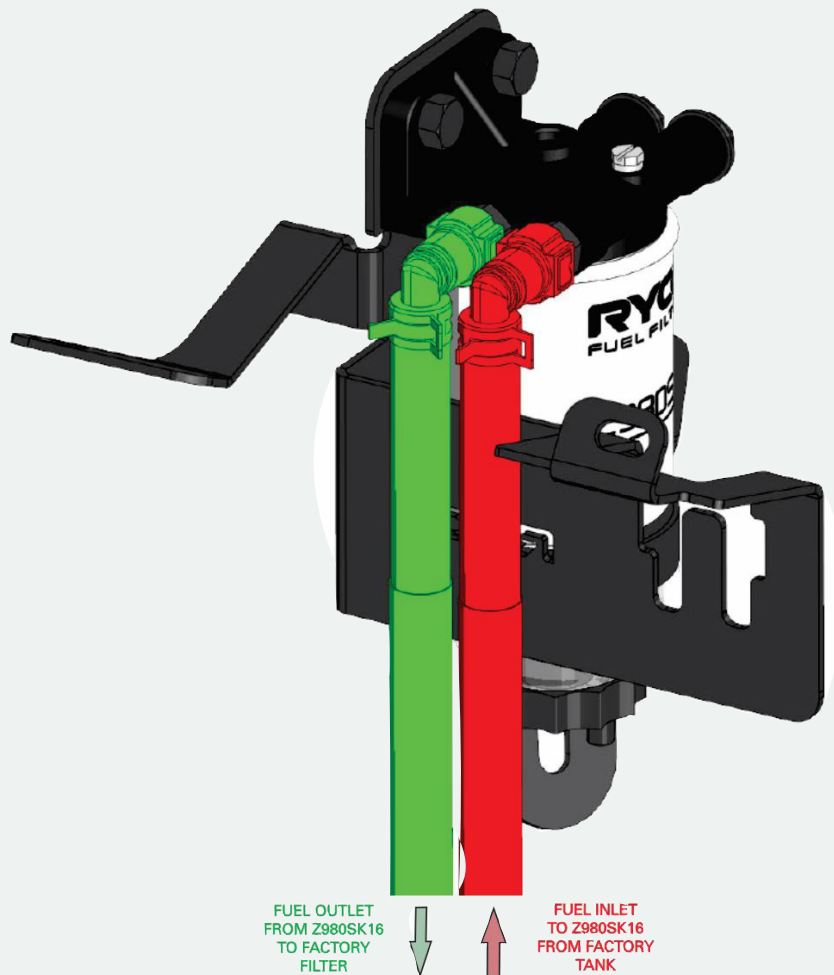

FIGURE 5
- 1 Mount the Z980SK16 assembly onto the X110R mounting bracket using the two (2) black M10 bolts and M10 washers supplied with Z980SK16.
- 2 Connect one of the supplied fuel hoses to the inlet port of Z980SK16 (coloured red in Fig. 5) by pushing the elbow connector onto the metal quick connector until you hear a “click”, and route the other end straight down to reach the factory fuel supply pipe next to the factory fuel filter underneath the engine bay.
- 3 Connect the second hose to the outlet port of the Z980SK16 (coloured green in Fig. 5) by pushing the elbow connector onto the metal quick connector until you hear a “click”, and route the other end to reach the factory fuel filter similarly to Step. 2.